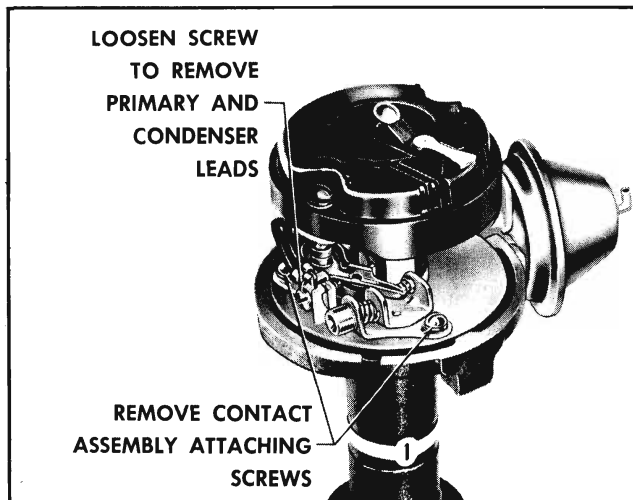

Fig. 11-57 Distributor Contact Details
1. Remove two attaching screws (Fig. 11-57) which hold base of contact set assembly in place.
2. Remove condenser lead and primary lead from nylon insulated connection by turning screw (Fig. 11-57) in contact set.